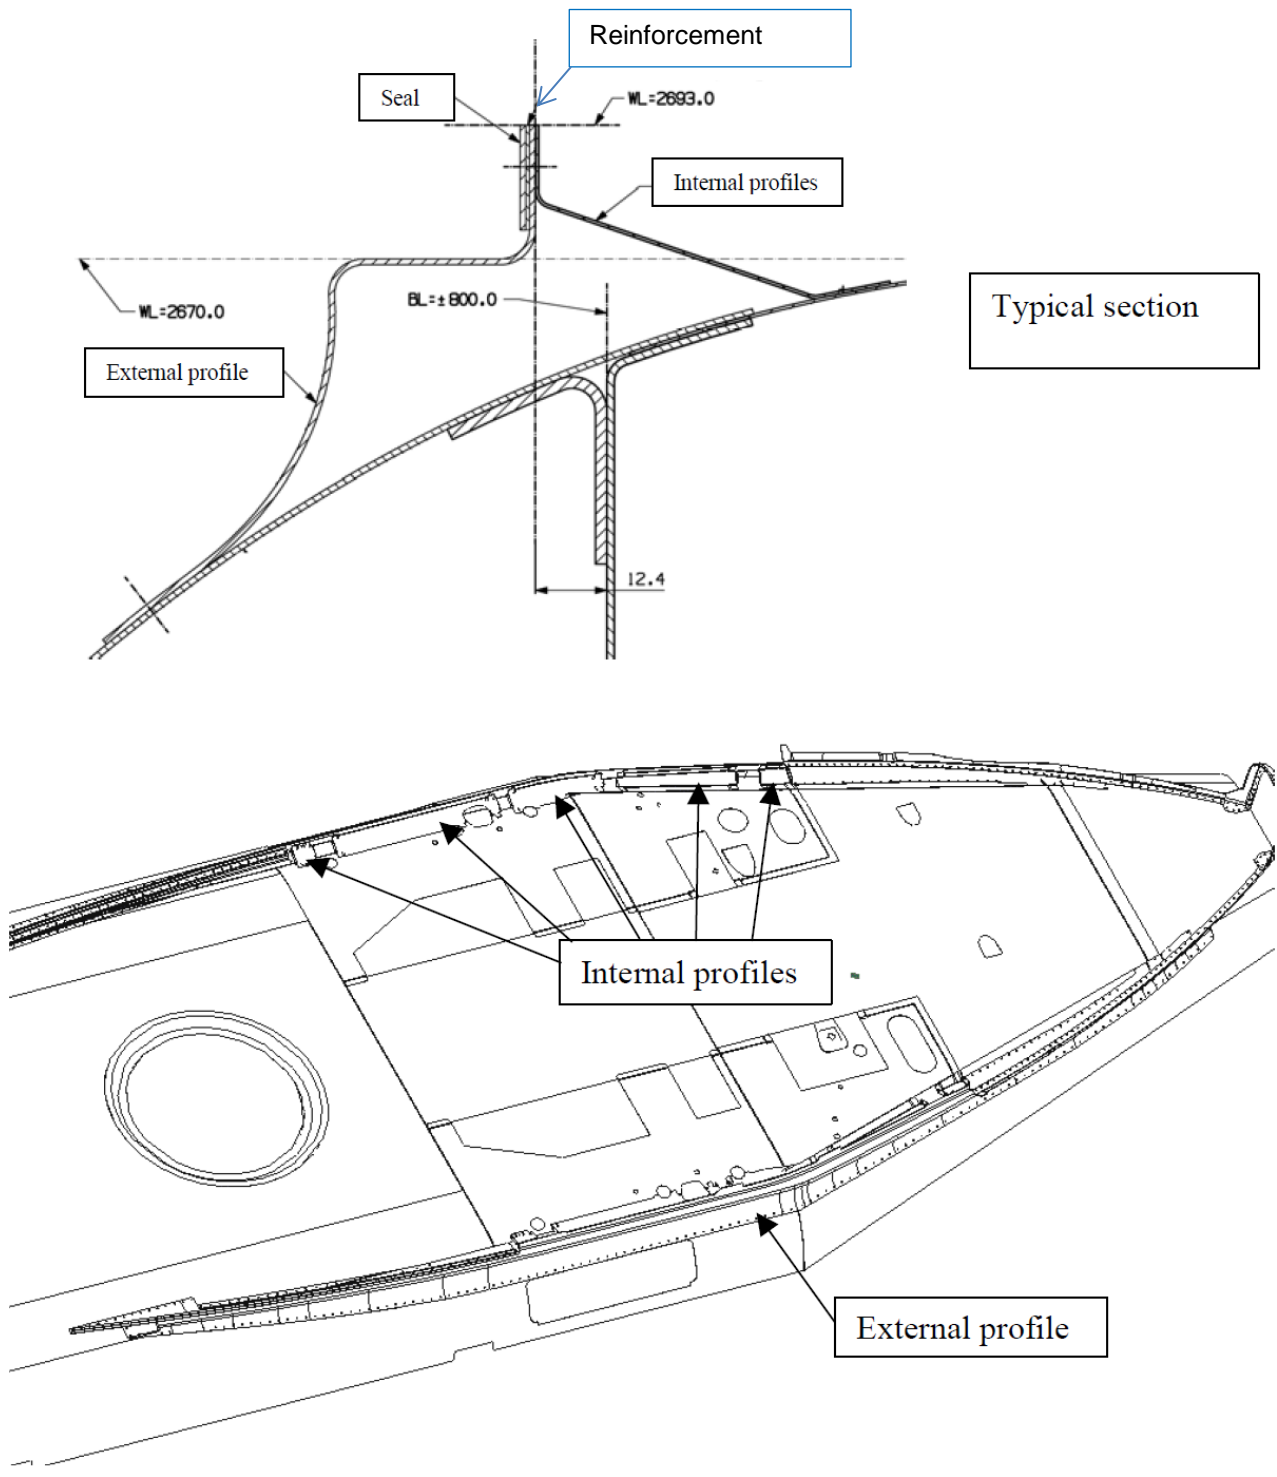

Figure A-9
- 1.6 joints between skin panels and external and internal profiles, using sealant also between the external profile and reinforcement. Finish the sealing with skin panels with method VI using type 1A sealant in the area outside the engine bay, and type 3 sealant in the area inside the engine bay - see Figure A-9.